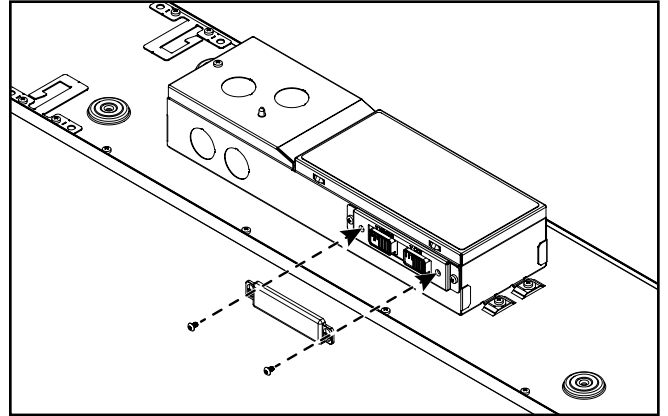

Figure 8.
10. (Optional) Once desired lumen level and CCT have been selected, attach provided switch cover securely using provided screws to prevent these settings from being changed, if desired. (Figure 8.)